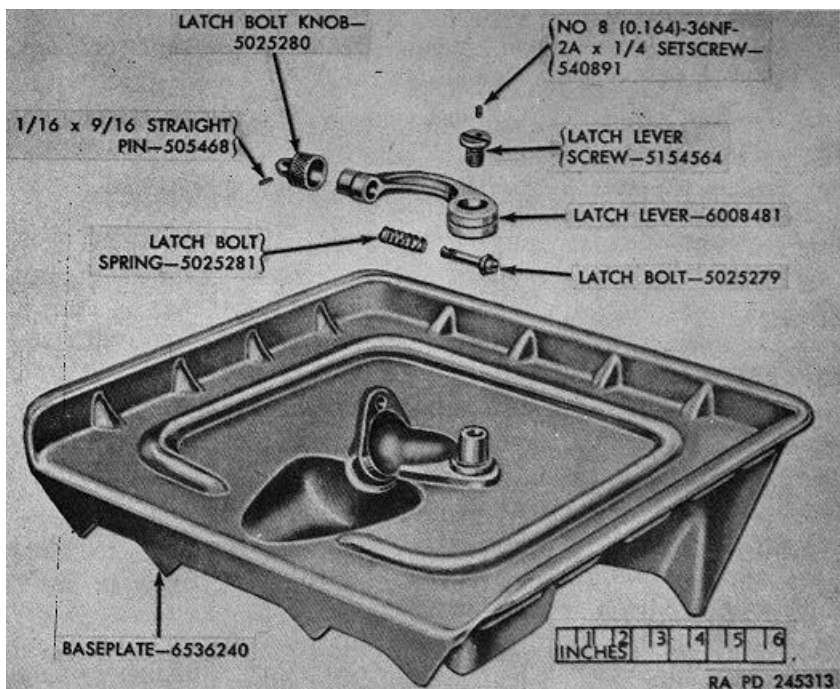
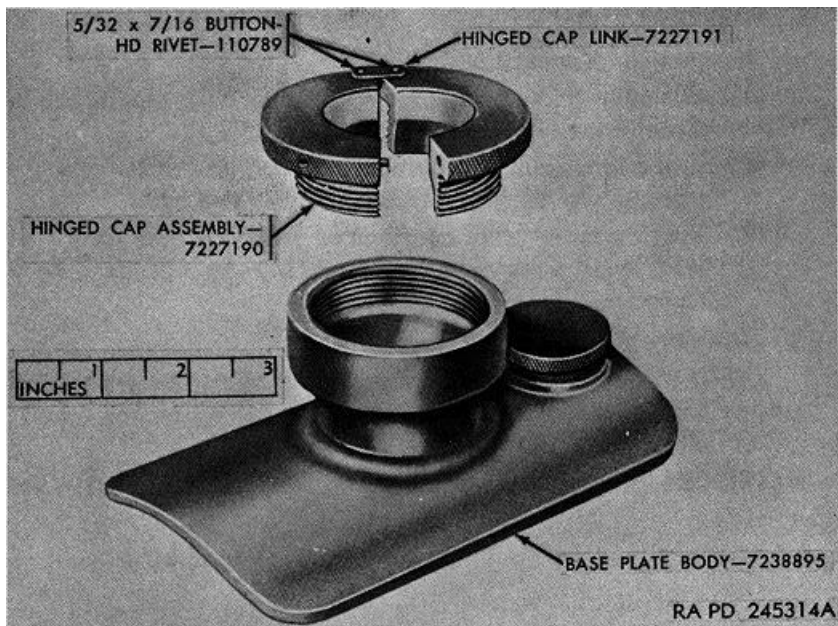

Figure 28. Baseplate-60-mm mortar mount M5--partial exploded view.
Figure 29. M1 baseplate assembly 7238892-60-mm mortar mount.
- a. *Baseplate of Mount M5* (fig. 28).
- (1) Remove setscrew from head of latch lever screw, back out
- (2) Drive straight pin from latch bolt knob, insert a rod through loop of knob, hold knob in place, and unscrew latch bolt. Remove latch bolt and latch bolt spring.
b. Baseplate M1 (fig. 29).
- (1) Unscrew hinged cap assembly from baseplate body.
- (2) Hinged cap assembly can be disassembled by removing the button-head rivets which secure the hinged cap link.
a. Baseplate of Mount M5 (fig. 28).
- (1) Assemble latch bolt spring on latch bolt and insert bolt through hole in latch lever.
- (2) Screw latch bolt into latch bolt knob and drive 1/16 x 9/16 straight pin through latch bolt knob and bolt.
- (3) Position latch lever on pivot of baseplate and secure with latch lever screw and No. 8 (0. 164)-36 NF-2A x 1/4 set-screw.
b. Baseplate M1 (fig: 29).
- (1) If hinged cap assembly was disassembled, rivet hinged cap link to both cap hinges. Draw up 5/32 x 7/16 button-hd rivets securely.
- (2) Close hinged cap assembly and screw into baseplate body.